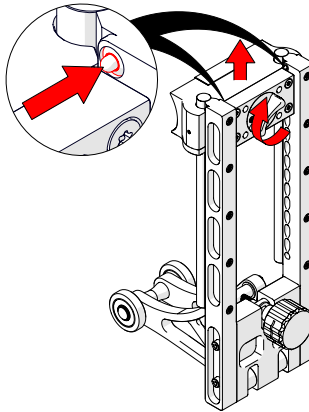

Fig. 11 - Press spring pins and remove
2. Press the two spring pins located at the top of each clamp arm, then turn the vertical release knob to lower and remove the base from the main assembly (Fig. 11). *(Having an extra pair of hands may be necessary to complete this task)*